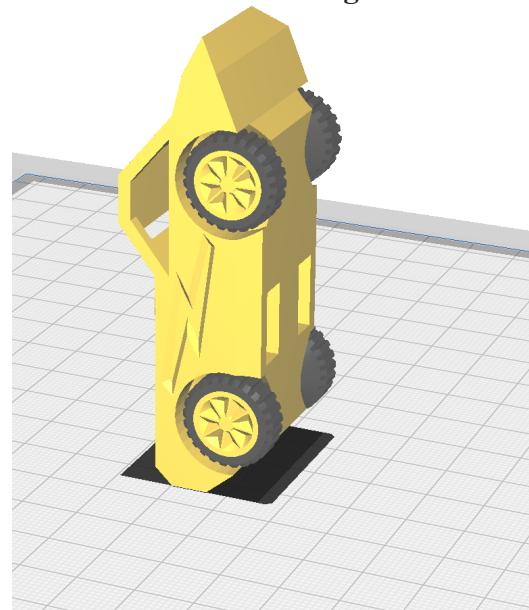

Fig. 13
Step 2. Merge both STL files, Fig. 13.